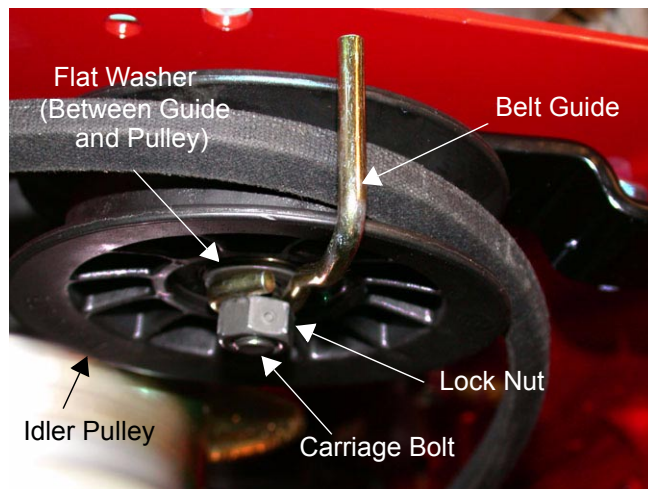

Figure 60
- 15.3. Reinstall the idler pulley onto the carriage bolt followed by the original flat washer, the new belt guide (1760096) and secure it with the original lock nut. See Figure 60.